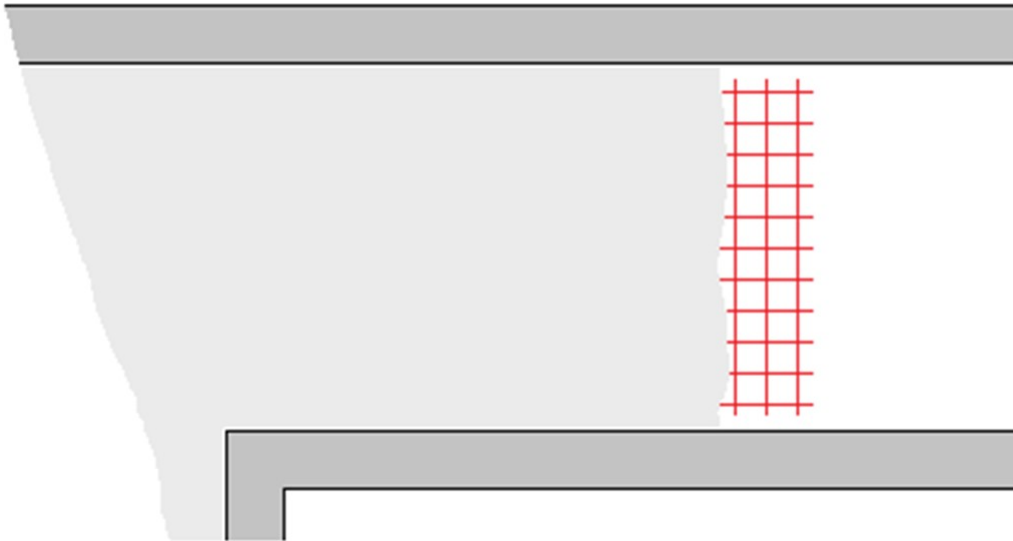

Fig. 2: Insertion of reinforcing mesh in case of re-casting
- In case of interruption in the laying of the screed, it is necessary to insert a piece of electro-welded mesh from screeds (3 mm wire, 10x10 cm mesh) to avoid the formation of a joint along the line of the next rework (Fig. 2):